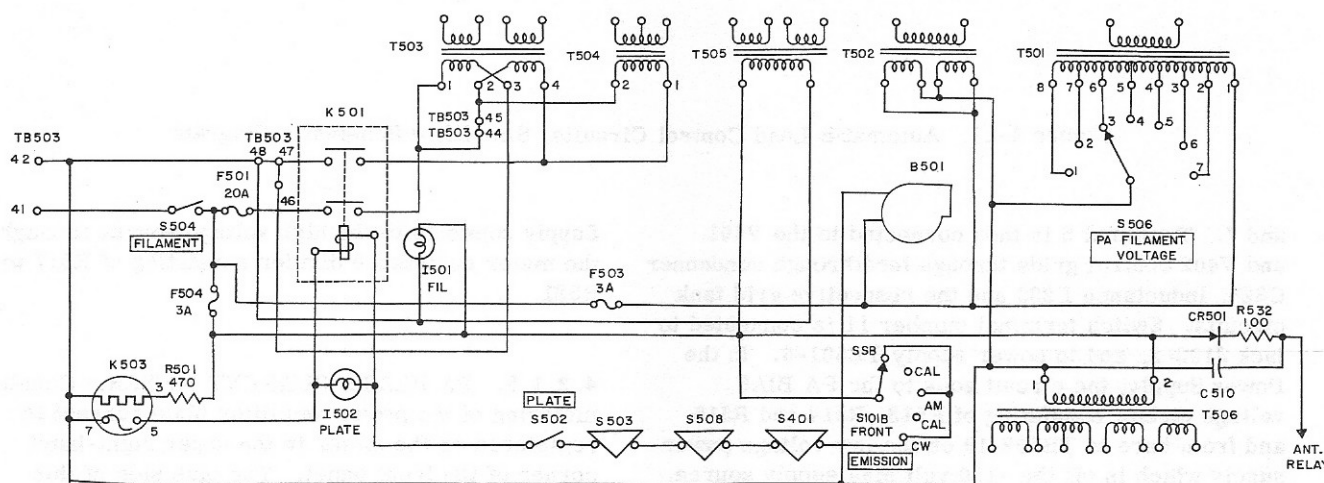

Figure 4-18. Primary Circuits, Simplified Schematic Diagram
**4.2.2.1. GENERAL.** The Power Supply of the KWS-1 Transmitter is designed for either a 230-volt or 115-volt a-c input. The schematic diagram in figure 7-2 shows alternate connections for either input value, whichever is available at the installation. Power supply primary circuits are shown in the simplified schematic diagram of figure 4-18.